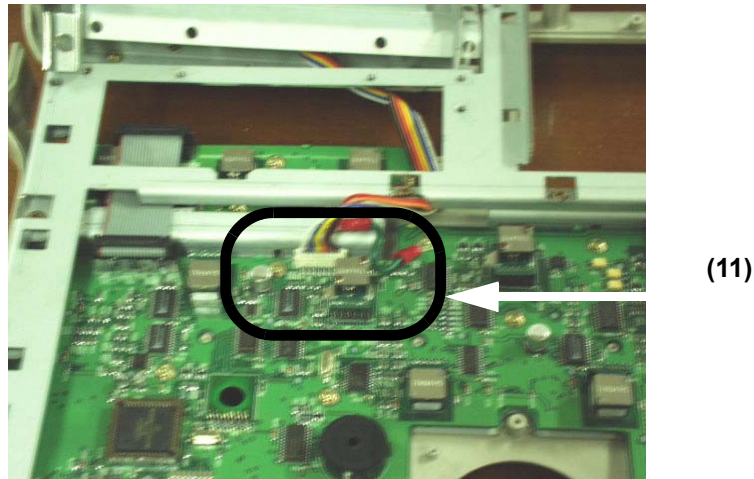

Figure 8-71 Disconnect one connector
- 2.) Disconnect one connector (11) from the main circuit board in the keyboard. Refer to section Figure 8-71 on page 28.